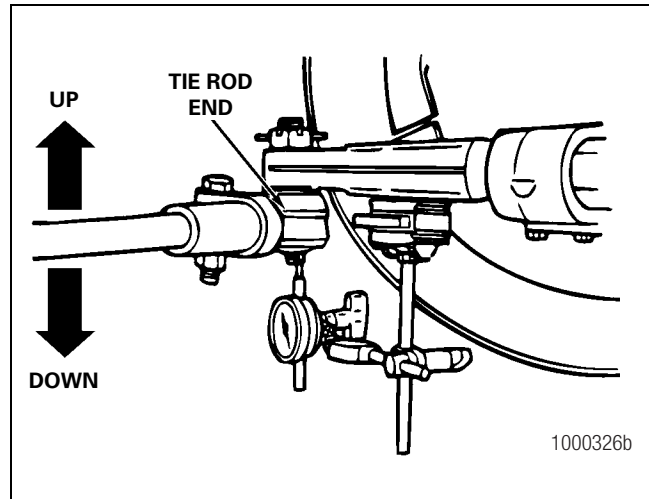

Figure 10.10
5. Place the indicator tip near the tie rod end grease fitting. Figure 10.10. Set the dial indicator on ZERO.